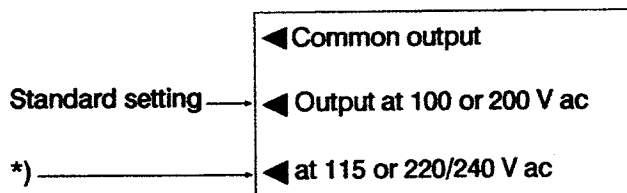

Fig. 3.2 Voltage Selection
*) Selectable by inside strapping (See Fig. 3.2)
To change to another A.C. voltage, slide the switch and/or move the wire to the opposite position. (See Sec. 2.2 and Fig. 3.2).